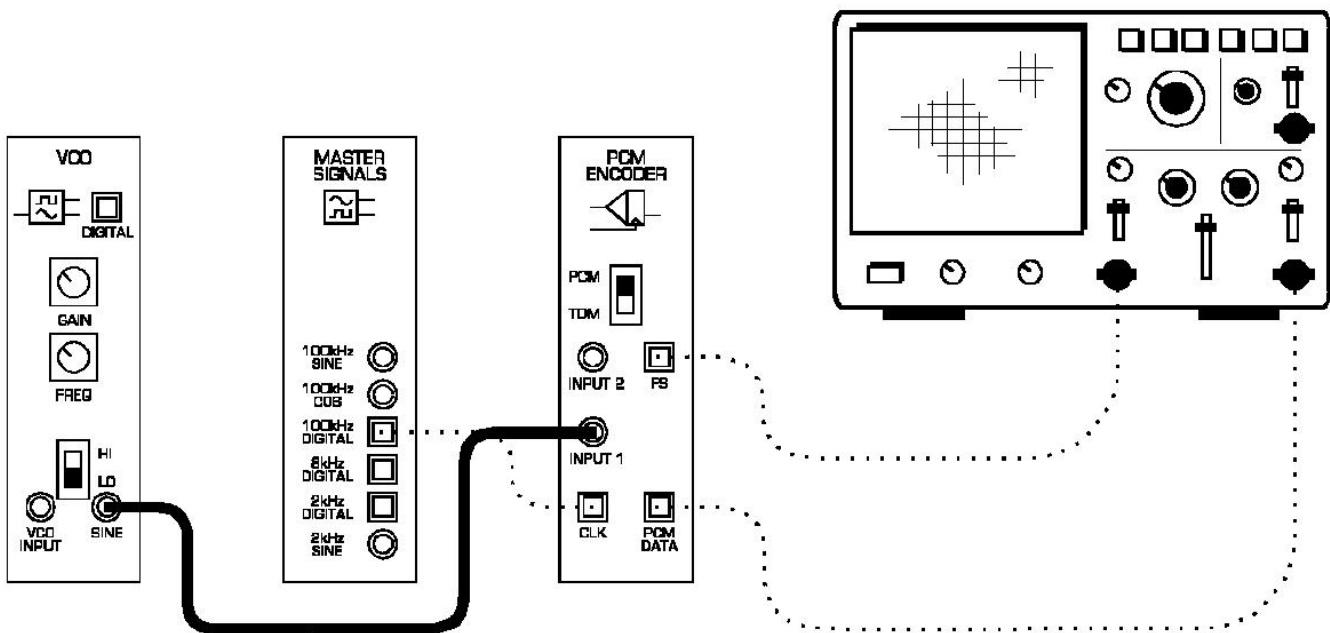

Figure 5:
12. Modify the set-up as shown in Figure 5.